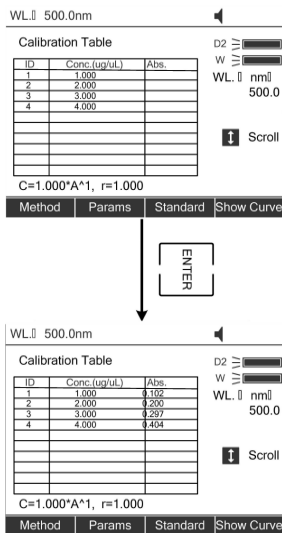

Fig. 4.5
5) Calibrate Standard Samples. Put the corresponding standard samples in the light path as the screen indicates and press **[START/STOP]** to measure. Then the Abs. value would appear in the corresponding table (Fig. 4.5)